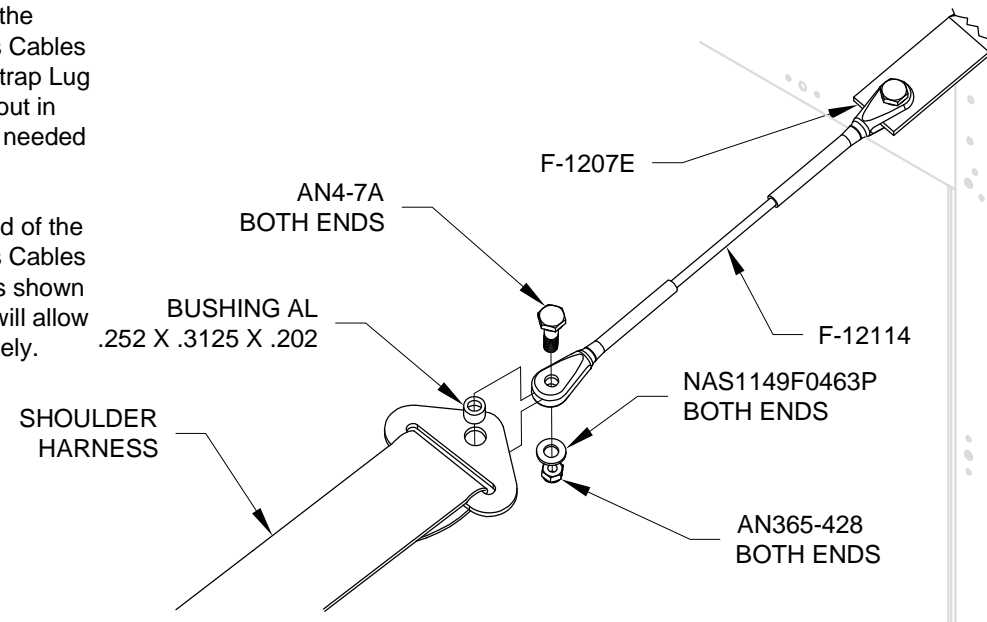

FIGURE 1: SHOULDER HARNESS ATTACH
Step 1: Attach one end of the F-12114 Shoulder Harness Cables to the F-1207E Shoulder Strap Lug using the hardware called-out in Figure 1. No bushings are needed at this end.
Step 2: Attach the other end of the F-12114 Shoulder Harness Cables to the Shoulder Harness as shown in Figure 1. The bushings will allow the end fittings to rotate freely.